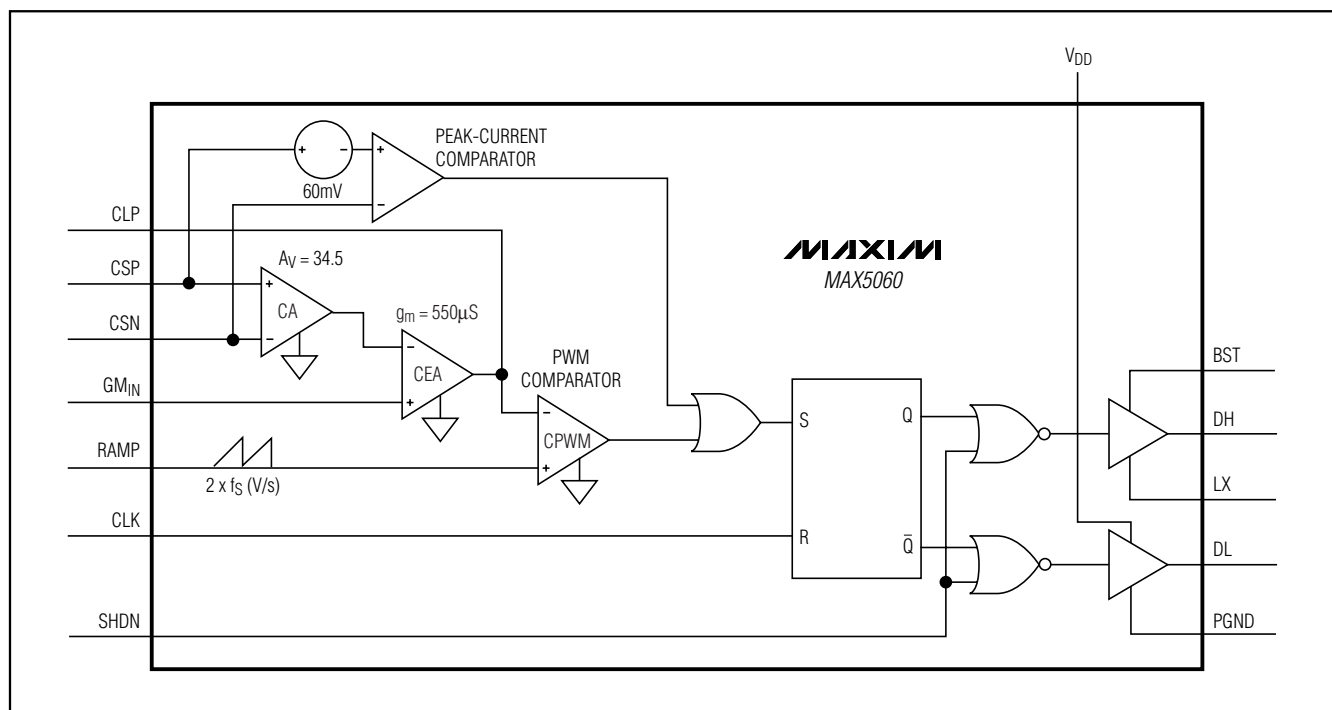

Figure 6. Phase Circuit
The current loop consists of a current-sense resistor ( $R_{SENSE}$ ), a current-sense amplifier (CA), a current-error amplifier (CEA), an oscillator providing the carrier ramp, and a PWM comparator (CPWM) (Figure 6). The precision CA amplifies the sense voltage across  $R_S$  by a factor of 34.5. The inverting input to the CEA senses the CA output. The CEA output is the difference between the voltage-error-amplifier output (EAOUT) and the amplified voltage from the CA. The RC compensation networks connected to CLP provide external frequency compensation for the CEA. The start of every